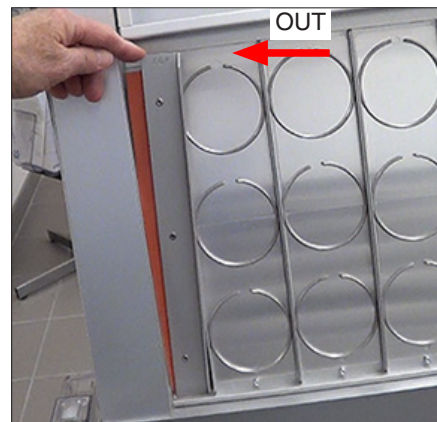

Figure 12.3q: Correct end seal installation.
- Install the seals with the rubber strip against the end frame and the “OUT” arrow pointing away from the specimen holders (Figure 12.3q).